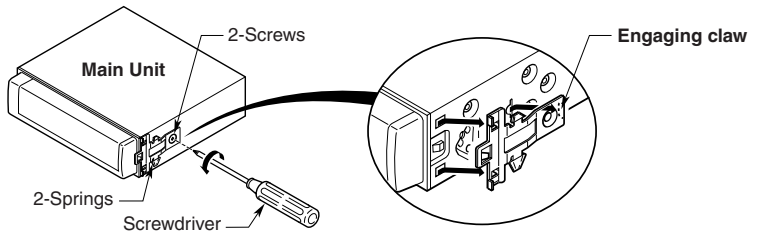

Figure 7
1. Remove the screws from both side of the main unit. Then, at either side, lift the leaf spring until the engaging claws are released from the holes, and slide the spring to the direction of arrow to remove it. Repeat the same for the other side to remove the springs from the both sides. (Figure 7)